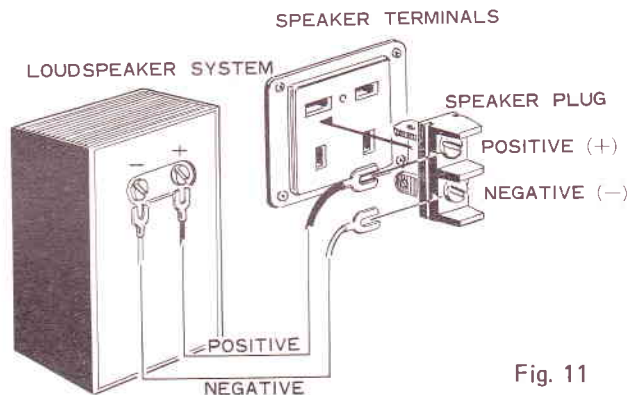

Fig. 11
- To connect a loudspeaker, take out a speaker connector plug from the accessories bag, and connect it to the leads of the loudspeaker as illustrated in Fig. 11.